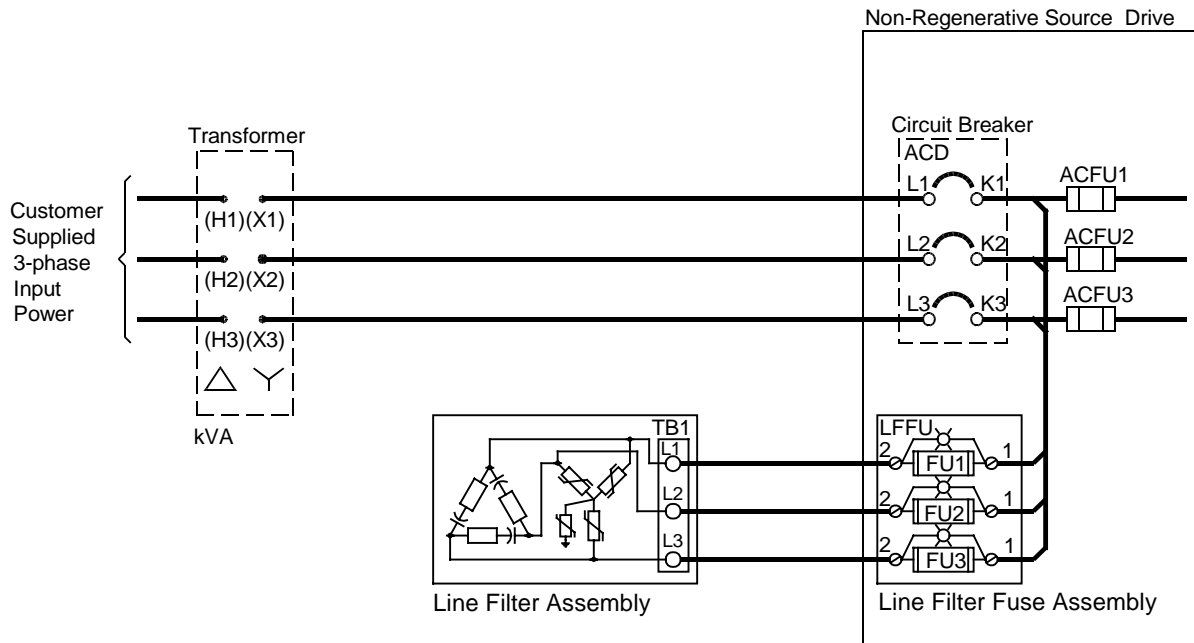

Figure 4-5. Line Filter Assembly Connections
The line filter assembly, typically roof-mounted, is a line-to-line RC (resistor-capacitor) filter network (see Figure 4-5) on the 3-phase power input of a non-regenerative source. It provides softening for line voltage transients, which may inadvertently cause the source SCRs to misfire. The filter also provides attenuation for any high-voltage transient spikes that might otherwise surpass the voltage rating of the power devices.
- Either an individual transformer (as shown in Figure 4-5)